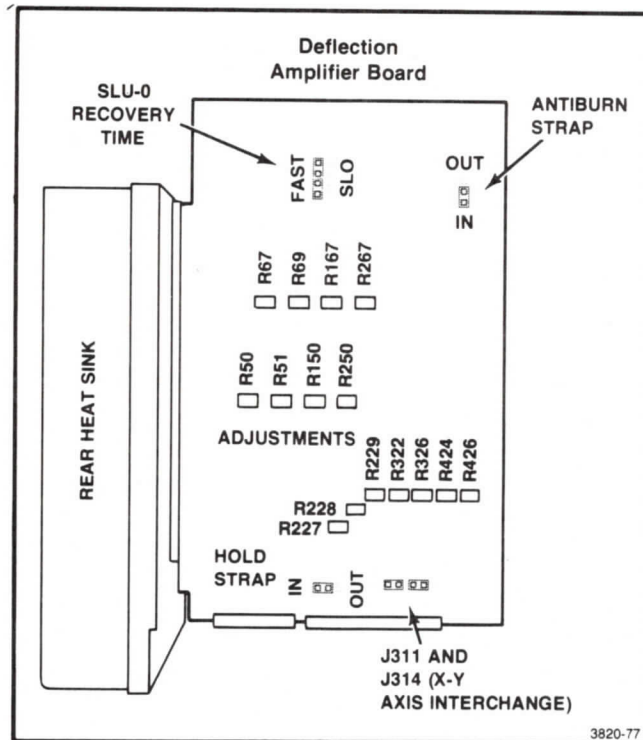

Figure 10-12. Deflection Amplifier Board Straps, Test Points, and Adjustments.
12. On the Deflection Amplifier board, set the ANTI-BURN jumper to the IN (lower) position. Check the J311 and J314 straps for proper installation. Make sure that the J199 4-pin jumper is set to the FAST position. And make sure that the Hold mode jumper is set to the IN position (toward the rear). See Figure 10-12 for a diagram of the Deflection Amplifier board describing the straps, test points, and adjustments.